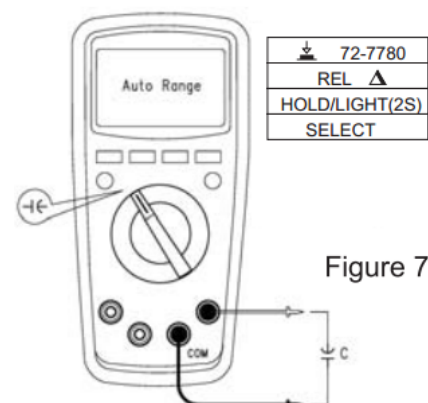

Figure 7
5. Capacitance measurement (see figure 7)